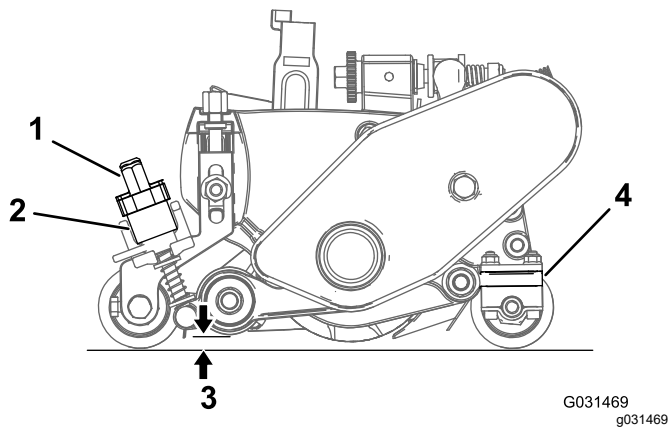

Figure 28
2. Rotate the quick-up levers (Figure 28) to the OPERATING position (the handle points toward the front of the cutting unit).
- At the end of the groomer reel, measure the distance from the lowest tip of the groomer blade to the working surface (Figure 28). Turn the height-adjuster knob (Figure 28) to raise or lower the tip of the groomer blade to the desired height.